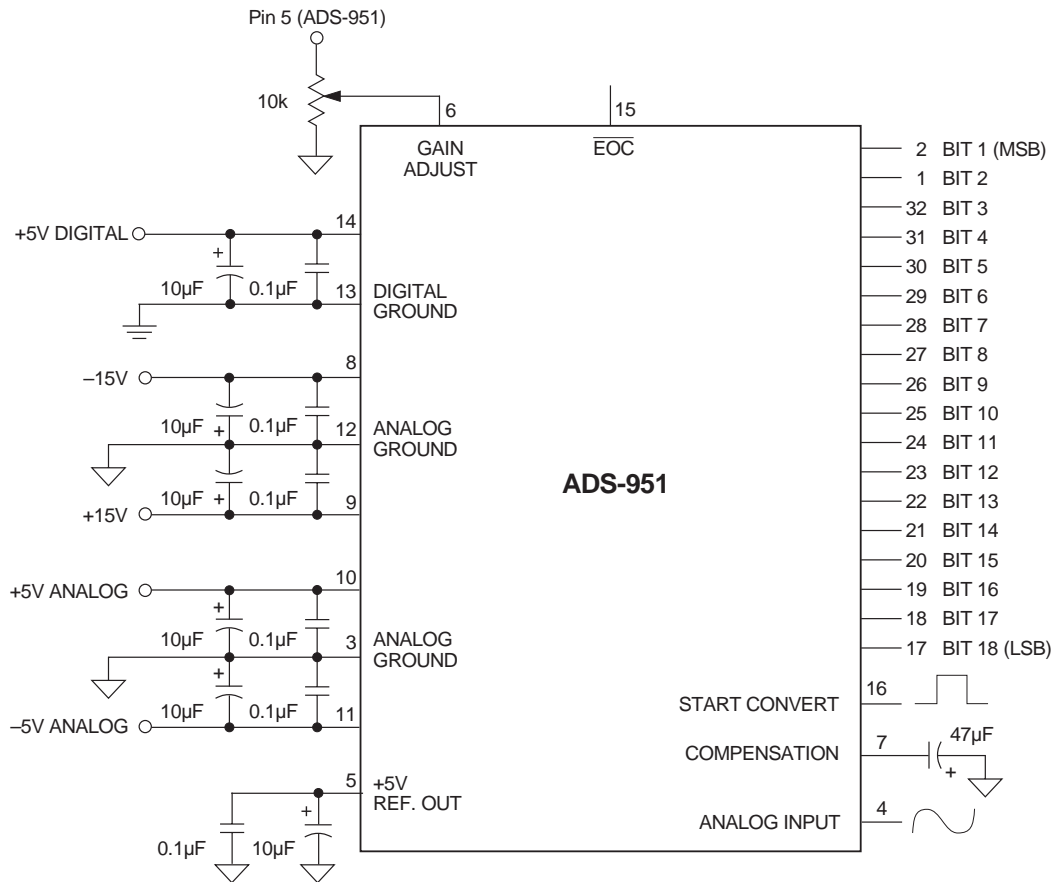

Figure 2. Typical ADS-951 Connection Diagram
- The ADS-951 achieves its specified accuracies without the need for external calibration. If required, the device's small initial errors can be reduced to zero using the adjustment circuitry shown in Figure 2. When using this circuitry, or any similar offset and gain calibration hardware, make adjustments following warmup. To avoid interaction, always adjust offset before gain. Float pin 6 if not using gain adjust circuits.
Connect the converter per Table 1 for the appropriate input voltage range. Any offset/gain calibration procedures should not be implemented until the device is fully warmed up. To avoid interaction, adjust offset before gain. The ranges of adjustment for the circuits in Figure 2 are guaranteed to compensate for the ADS-951's initial accuracy errors and may not be able to compensate for additional system errors.